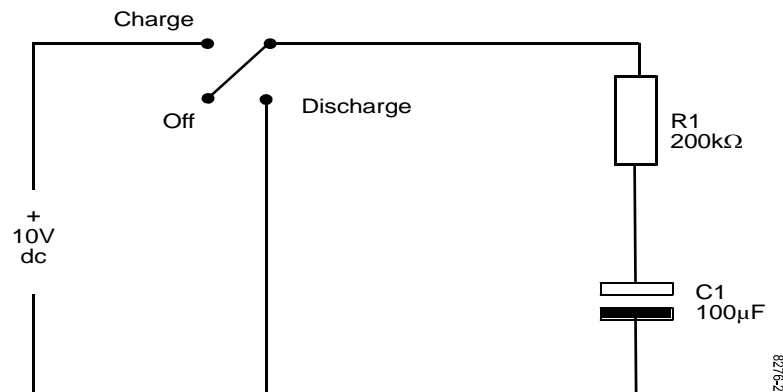

Figure 12
a. Construct the circuit shown in figure 12 below.